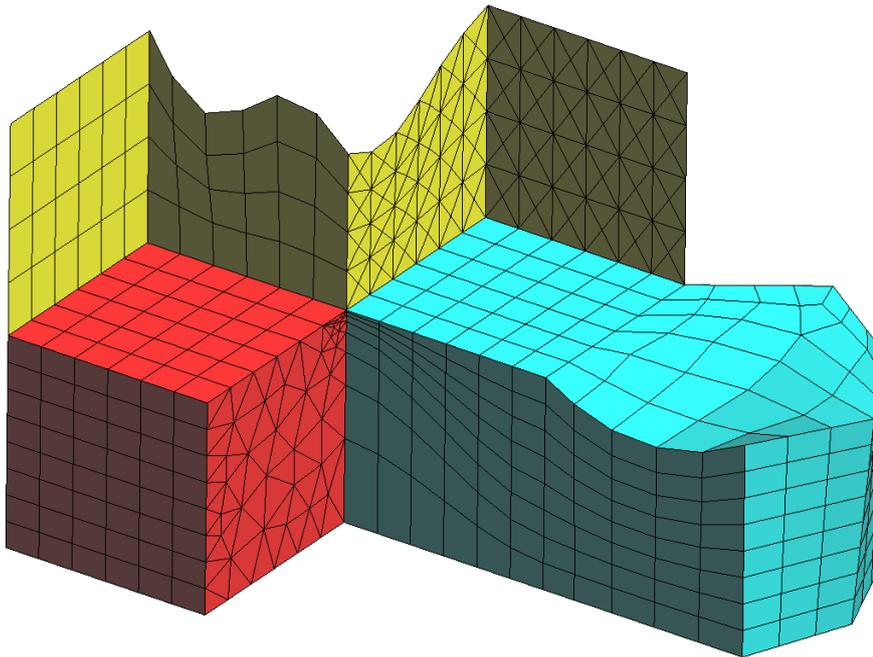

Figure 14. Concentration of elements on lines 3 and 23
- 6 Another window appears in which to enter the maximum element size. Leave the default value unaltered. The result is the mesh shown in Figure 14.